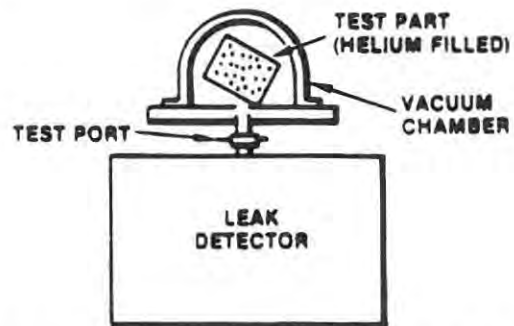

Figure 1-5. Test piece sealed with helium or tracer gas; bell jar used to determine total leak rate.
### (3) TEST PIECE ALREADY SEALED (FIGURE 1-5)